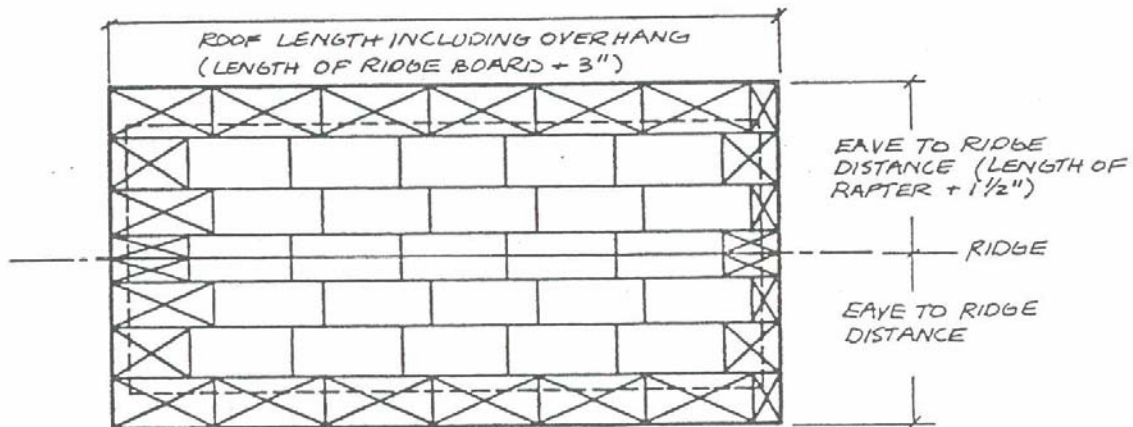

FIGURE 3
8. Move ridge board sections and rafters onto the ceiling framing. (Lay plywood panels over the ceiling joists for safer footing.) First erect the ridge board and the rafters nearest its ends, as shown in Figure 3. If the ridge of the house is longer than the individual pieces of ridge board, you'll find it easier to erect each piece separately, rather than splicing the ridge board full length first. Support the ridge board at both ends with the temporary props. Toenail the first rafter pair securely to the ridge board using at least two 8d nails on each side, then nail at wall. Install other end rafter pair in the same manner.
2. Complete your layout for the whole roof. The layout shows panel size and placement as well as sheathing panel quantities needed (See Figure 3). If your diagram should show that you will have excessive waste in cutting, you may be able to reduce scrap by slightly shortening the rafter overhang at the eave, or the gable overhang.
As shown in Figure 3, for the example house, nearly half of the panels are "soffit" panels. For such a case, rather than shimming to level up soffit and interior sheathing panels (as in Step 7), you may want to use interior sheathing panels of the same thickness as your soffit panels, even though they might then be a little thicker than the minimum required.